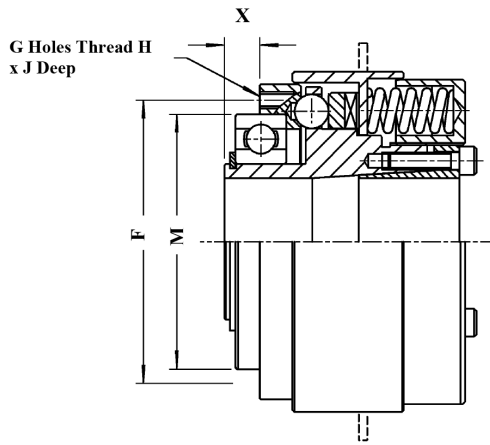
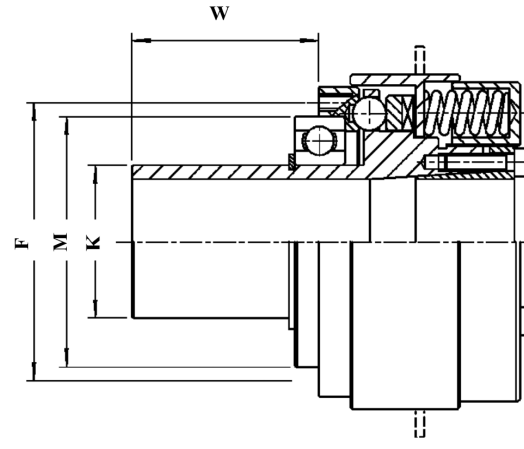

Figure 2
Figure 2a
If a drive medium (pulley, sprocket, gear, sheave etc.) is to be fitted by the customer, it must be bored and drilled to suit the torque limiter with reference to Figures 2 / 2a and Table 4. Short hub units as shown in figure 2 are suitable for drive media where the side load can be reacted on the integral deep groove ball bearing. The best fit on the bearing will depend on the application but if no fit is specified, we recommend H7 for the drive media bore. (Shown as M2 in table 4.) Where the load is overhung, a long hub unit as shown in figure 2a is used and the customer must supply suitable bearings mounted on the hub extension diameter 'K'.
*For types 3&4 (Figure 2a), remove the drive media and disassemble the torque limiter from the shafts